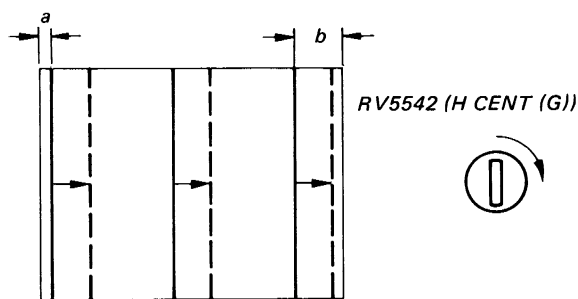

Fig. 3-9
- (7) Set the TEST/NORMAL switch to NORMAL position and project an off-air signal.
- (8) Adjust RV5538 (H SIZE (G)) so that the horizontal picture size is a little less than the screen size.
- (9) Adjust RV5542 (H CENT (G)) so that "a" is equal to "b" as shown in Fig. 3-9.